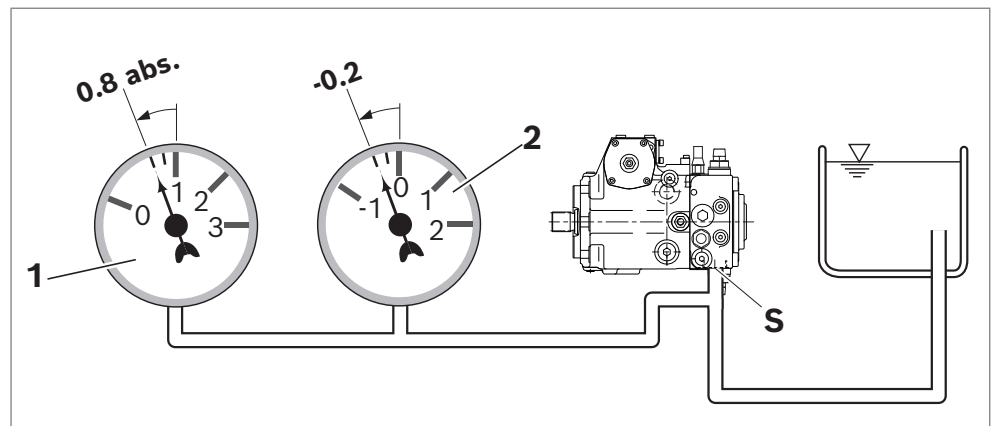

Fig. 9: Suction pressure
- ▶ Make sure that a minimum suction pressure of 0.8 bar absolute is present at port **S** (0.5 bar absolute for cold start) during operation in all installation positions and installation locations for the axial piston pump, see Fig. 9. See data sheet for other pressure values.